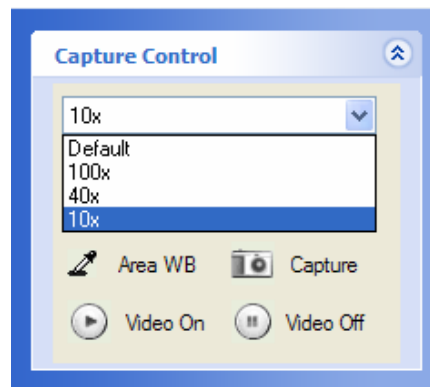

Figure 5: Calibration Choices Prior to Capture
Step 5: For future measurements ensure that you choose the appropriate calibration from the drop down list in the *Capture Control* area prior to capturing an image, as shown in Figure 5. This ensures that the proper calibration data has been applied.